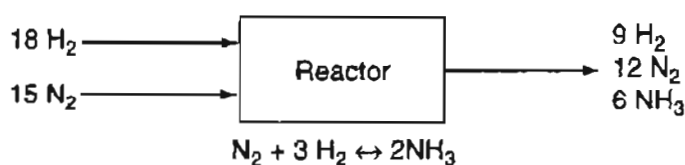

Figure 10.1. A reactor to produce NH_3 .
To make the idea clear, consider the well-known reaction of N_2 and H_2 to form NH_3 . Figure 10.1 presents the process as an open, steady-state system operating for 1 min so that the accumulation terms are zero on the lefthand side of the equal sign in Equation (10.1). The data in Figure 10.1 are in g mol.
You can conclude for the case of a single chemical reaction that the specification of the extent of reaction provides the one independent quantity that accounts for all of the values of the generation and consumption terms for the various species in the respective implementations of Equation (10.1). The three species balances corresponding to the process in Figure 10.1 are
Calculate ξ for the process in Figure 10.1. Based on NH₃
2. Does it make any difference if the process in Figure 10.1 is transformed into a closed (batch) system? No. You can treat the process as a closed, unsteady-state system by changing your viewpoint as explained in Chapter 6. For a closed, unsteady-state system the flows in and out would be zero, and Equation (10.1) would become